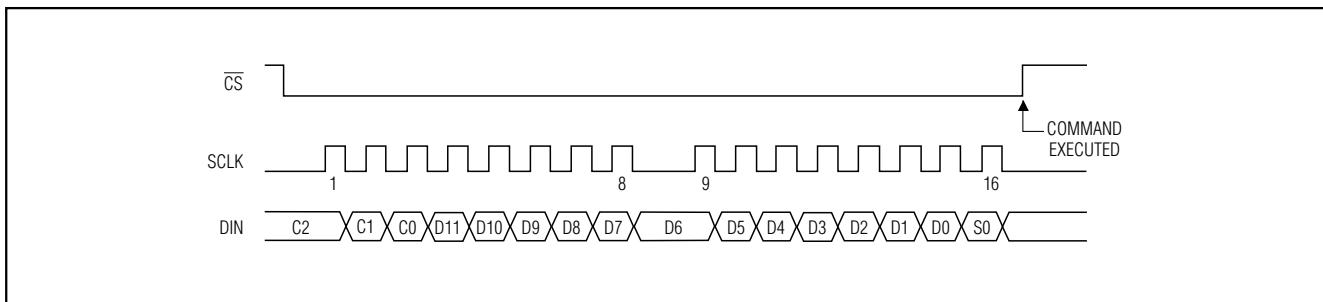

Figure 5. Serial-Interface Timing Diagram
Figures 5 and 6 show the serial-interface timing requirements. The chip-select (CS) pin must be low to enable the DAC's serial interface. When CS is high, the interface control circuitry is disabled. CS must go low at least t_{CS} before the rising serial-clock (SCLK) edge to properly clock in the first bit. When CS is low, data is clocked into the internal shift register through the serial-data input pin (DIN) on SCLK's rising edge. The maximum guaranteed clock frequency is 10MHz. Data is latched into the MAX5302 input/DAC register on CS's rising edge.